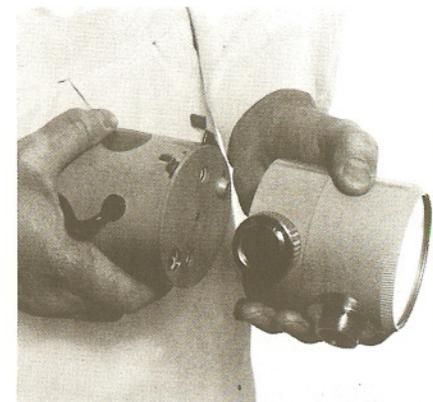

Fig. 4 Connection of sub-assemblies
- 1 To connect the alarm system to the respiratory pressure gauge (Fig. 4), first move each of the catch levers 7 apart until they come to a stop. Insert the coupling bolts 6 of the respiratory pressure gauge in the holes 14 of the alarm system sub-assembly until the two housings come together. To lock together, press together both catch levers 7.